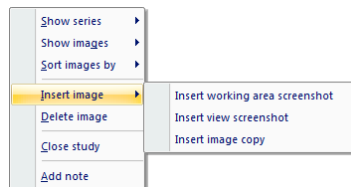

Figure 166 – Context menu of the thumbnails palette
3. Right-click to open the context menu and select the **Insert image/Insert working area screenshot** item (see Figure 166). The image from the current view is then automatically inserted at the end of the target series.
3. Right-click to display the context menu and select the **Insert image/Insert view screenshot** item (see Figure 166). The screenshot of the current view is then automatically inserted at the end of the series.
3. Right-click to display the context menu (see Figure 166) and select the **Insert image/Insert image copy** item (see Figure 166). The image from the current view is then automatically inserted at the end of the series.
2. Right-click to display the context menu (see Figure 166) and select the **Delete image** item. The image is then automatically deleted from the series.